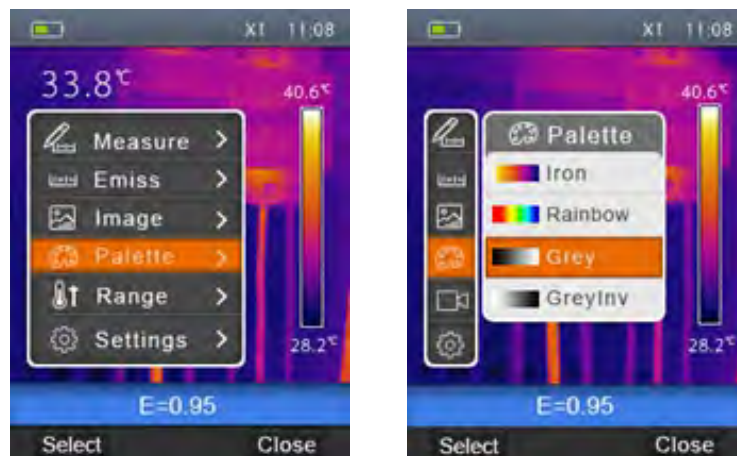

Fig. 26: Setting the colour palette
1. Select the item "Palette" using the keys \oplus or \ominus and press the key \blacksquare . The screen Fig. 26 – Right side is shown on the display